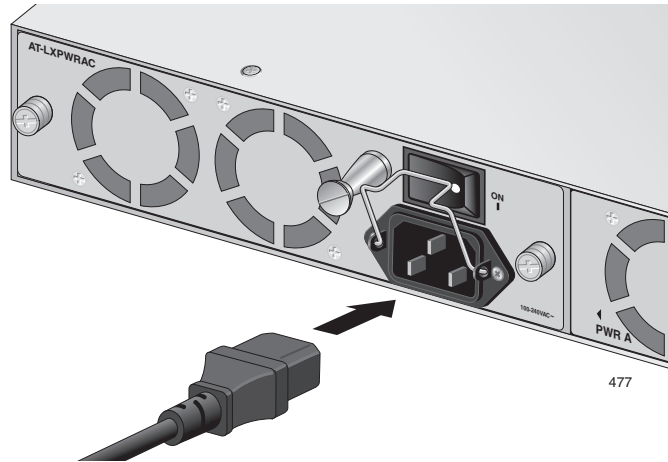

Figure 37. Plugging in the AC Power Cord
3. Plug the power cord into the AC power connector on the back of the chassis, as shown in Figure 37.